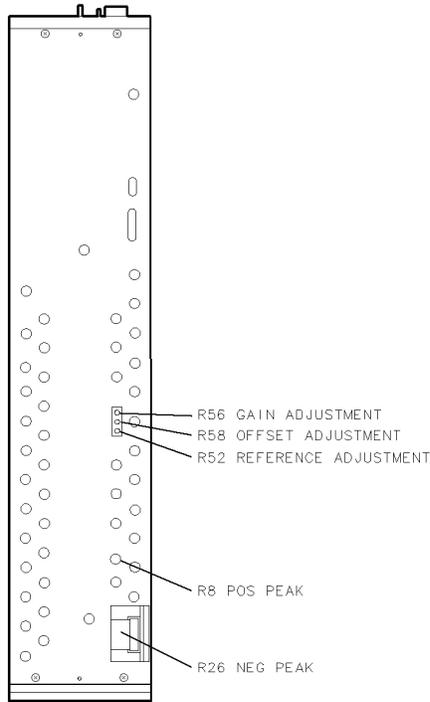

Figure 6-2. Locations for Adjustment 01. Video Processor
5. Refer to Figure 6-2 for the location of the adjustments. The adjustments are made in the following order: